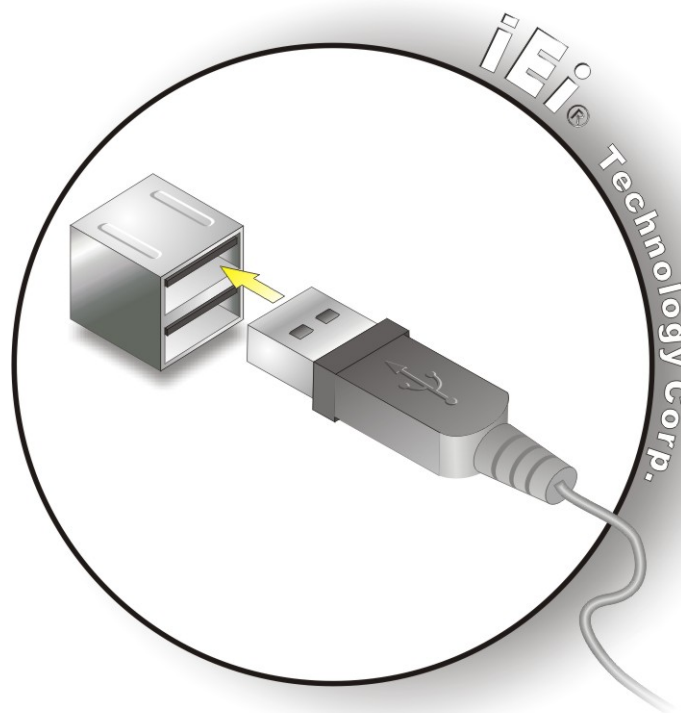

Figure 3-28: USB Device Connection
Step 2: **Align the connectors.** Align the USB device connector with one of the connectors. See **Figure 3-28**.